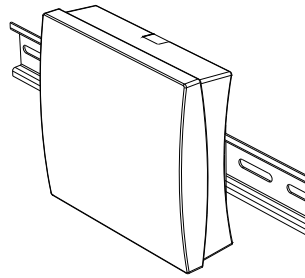

Figure 5: DIN Rail Mounted
- Slide the back plate onto the DIN rail (Figure 5).